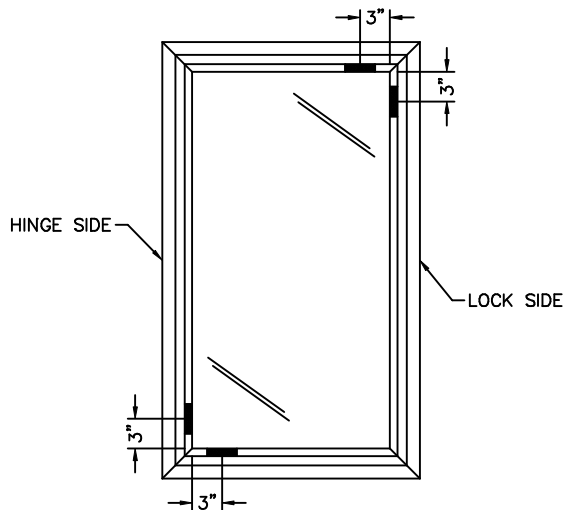

FIGURE 6
4. AFTER SQUARING SASH, INSTALL TWO (2) SETTING BLOCKS AT UPPER LOCK SIDE CORNER, AS SHOWN IN FIGURE 6. ADJUST BLOCK THICKNESS AS REQUIRED TO KEEP SASH SQUARE.
4. APPLY CONTINUOUS FILLET BEAD AT PERIMETER, USING SKINNING TYPE SEALANT (SEE FIGURE 6).